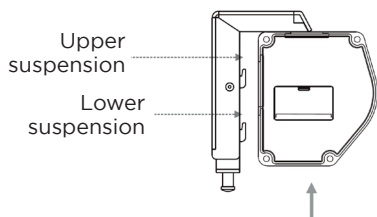

Fig. 8
4. When mounting the screen on the mounting brackets, make sure that the grooves on the screen housing hook into the upper and lower grooves of the brackets. Simply slide the screen onto the brackets. The grooves on the mounting brackets will hold the case in place. Horizontal adjustments can still be made (Fig. 8 - 10).